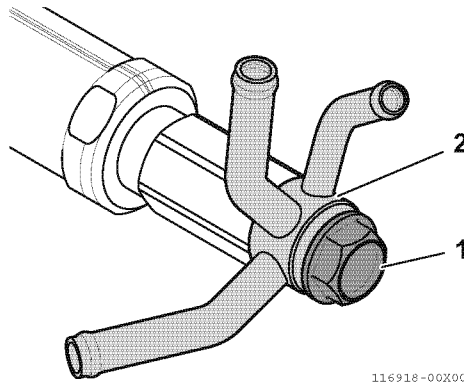

Fig.50-35
- 2 - Use a tool and slightly turn the hollow screw (1, Fig.50-35) counterclockwise to loosen it, then clean the fastening part again carefully to remove any paint chips or other foreign matter generated when the bolts were loosened. Then remove the hollow screw and hose joint (2, Fig.50-35), taking care that the washers do not fall off.